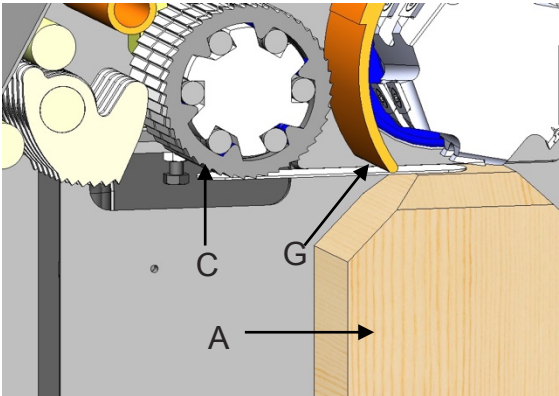
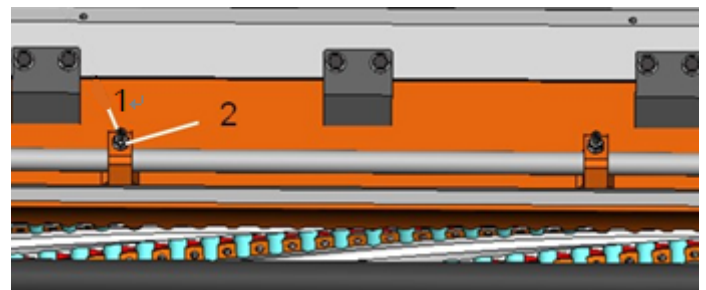

Fig. 17: Cutterhead
Fig. 19: Pressure Bar Adjustment
2. Place a hard wood gauge (Fig.17, A) under a knife in cutterhead (Fig.17, B). Place a 0.02" (0.5mm) feeler gauge (Fig.17, C) on top of wood block and raise table until feeler gauge contacts the knife in its lowest position.
2. 1. Loosen screw (Fig. 19, 1) and nut (Fig.19, 2) turn the screw to the right so that the pressure bar moves upward. Place gauge block and 0.2m/m thickness gauge (Fig.17, A) under the cutterhead.
2. Place a hard wood gauge (Fig.17, A) under a knife in the cutterhead. Place a 0.02" (0.5mm) feeler gauge (Fig. 17, B) on top of wood block and raise table until the gauge contacts the knife in its lowest position.